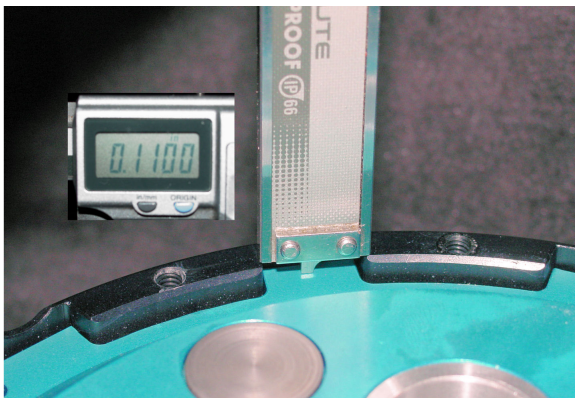
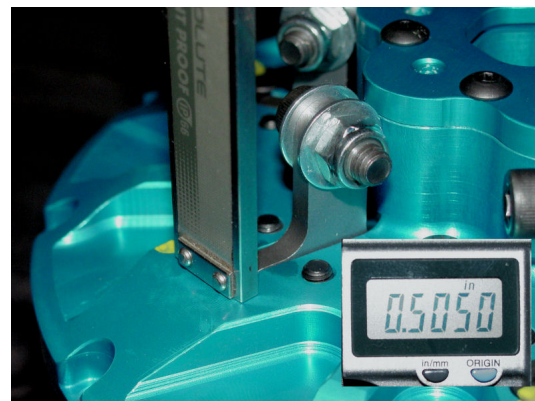

Fig. 1
Fig. 2
- C. Once the basket is in place, replace the hardened steel spacer that goes between the face of the clutch basket and the inner hub with the four (4) piece needle bearing spacer supplied with your unit. **Be sure to place a thrust washer on both sides of the needle bearing.** Install the modified 2006-11 stock hub. Install the supplied Hub Collar, then using the supplied splined washer, tighten the OEM locking nut to the factory specification. Check to make sure you have the correct end play on your basket after tightening. If you don't have .003 to .006" end play clearance, the inner hub will not rotate when the nut on the input shaft is tight. If the basket has too much end play, it could cause damage to the clutch or engine.
- E. The Bottom Spacer is preinstalled in the basket, make sure the bolts are tight. Install the friction and metal plates the same way as with the stock procedure, except eliminate the stock ring and spring washer, **start with a thick fiber supplied by MTC**, then steel, then fiber, then steel, continue until you end with a fiber. The other 3 MTC fibers can be mixed in at any location in the clutch pack. The Kawasaki ZX14 Gen II clutch has (7) steels (7 OEM steels-0.102") and (8) fibers (4- OEM fibers-0.118", and 4- MTC fibers-0.151") plates. The total clutch pack should be approximately 1.790".
- F. Insert the pressure plate on top of the last fiber. The height from the top of the tang, on the pressure plate to the top of the basket should be approximately 0.110" (See Fig. 1). This will give you an air gap below your arms to the buttons of 0.110".
- G. Place the hat assembly on the basket and tighten the twelve (12) allen head cap screws to secure it.
- I. The air gap between the arms and the pressure plate buttons can be measured using the thin bottom section of a caliper. Stick the caliper rod into the slot opening just behind the arm (See Fig. 2) until it hits the top of the button on the pressure plate. Take a height reading to the top of the Gen II hat, this reading should be between 0.490"-0.510". This gives an air gap of 0.100"-0.120". It is better to start with an air gap of 0.100" to compensate for clutch wear. This technique can be used to maintain the air gap, after repeated runs, without removing any part of the clutch.